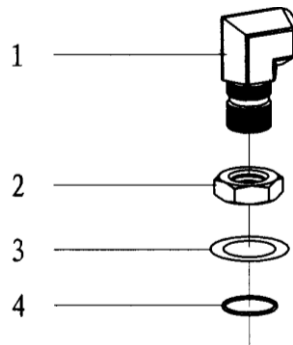

Fig.7-15
15. Bend sub (NPT1-1 5/16-12UN) (Fig 7-15, Table 15)